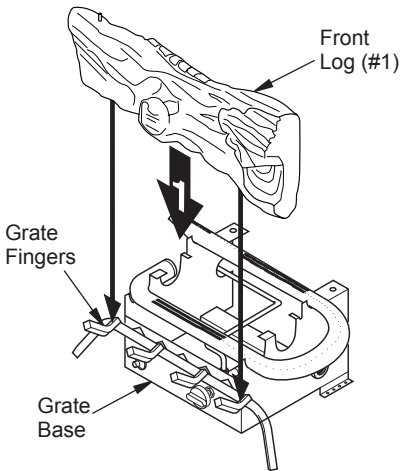

Figure 18 - Installing Front Log #1
1. Place front log (#1) on grate fingers. Make sure front log rests firmly between grate fingers and grate base (see Figure 18, page 16).